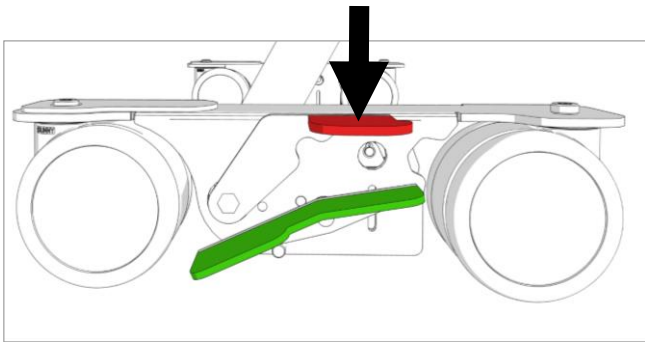
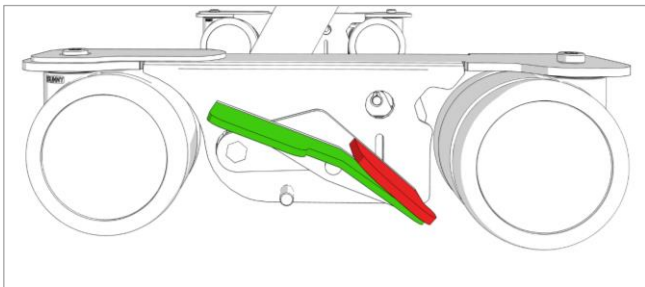
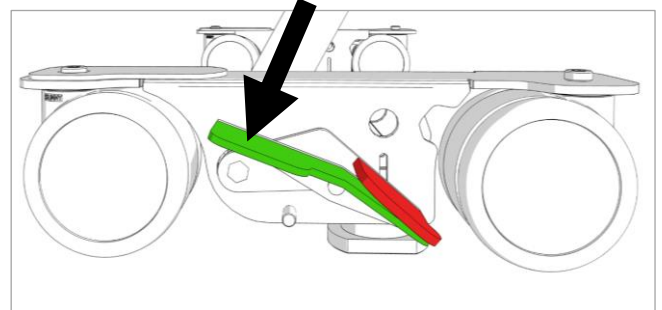

Figure 13.1
Figure 13.2
Figure 13.3
1. To engage the braking system at one end of the bed press the red upper pedal firmly downwards as shown in Figure 13.1 until it locks into position as shown in Figure 13.2. Repeat for the other end of the bed.
2. To disengage the braking system, press the green pedal firmly downwards as shown in Figure 13.3 until the red pedal returns to the disengaged position as shown in Figure 13.1. Repeat for the other end of the bed.